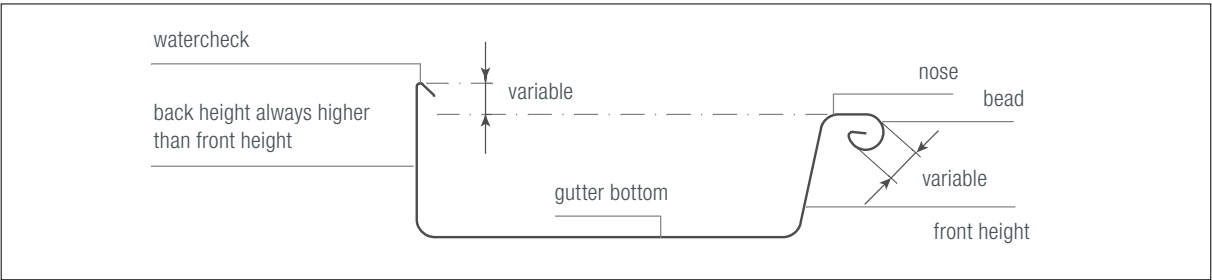

Figure 3.1.1
- The brackets must be attached at a maximum of 2 meters distance, and the upper bracket must be installed at least 1 meter under the gutter bottom, see Figure 3.1.1.7.